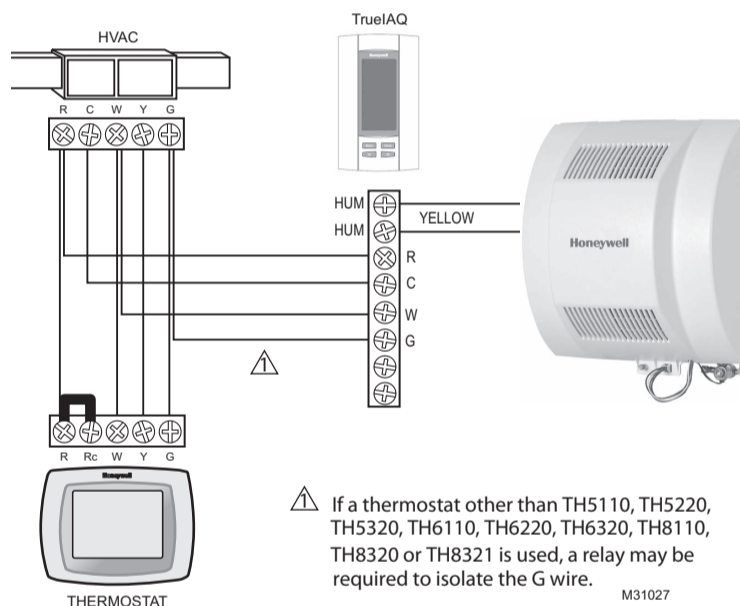

Fig. 8. Typical wiring diagram for humidifier using TrueIAQ.
14. Connect the humidifier to the two HUM terminals on the H1008A as shown in Fig. 8.